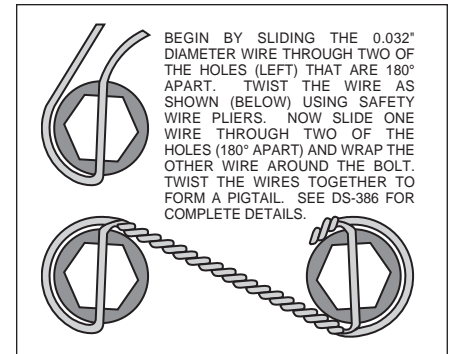
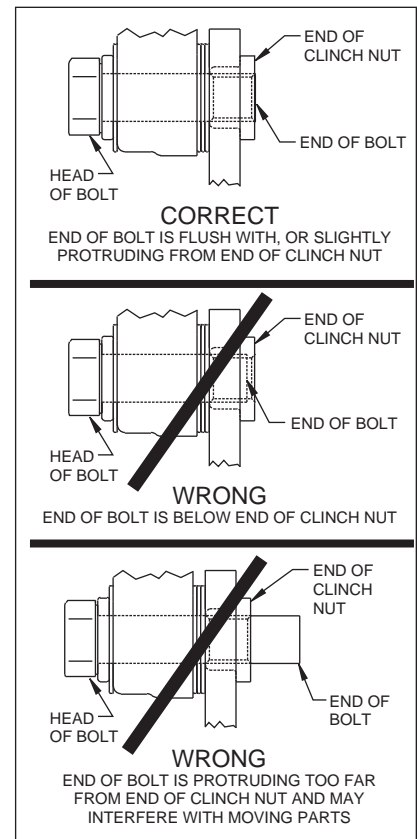

Figure 3. Safety Wire Diagram
Figure 4.
- With the larger I.D. side of the rotor (5) facing away from the hat (7), bolt rotor (5) to hat (7) through the backside of the rotor using bolts (6). Torque bolts (6) to 180 **in-lb**. Safety wire bolts (6) using standard 0.032 inch diameter stainless steel safety wire as shown in Figure 3. Please refer to Wilwood's data sheet DS-386 (available at www.wilwood.com/Pdf/DataSheets/ds386.pdf) for complete safety wire installation instructions.
- Slide the rotor/hat assembly (5, 6 and 7) over the wheel studs (1) in the hub (2) taking care to align the small countersunk holes in the hat (7) with the small threaded holes in the hub (2) Install three flat head socket head screws (8) through the small holes in the hat (7) and torque to 85 **in-lb**.
- **NOTE:** Please reference the caution statement at the beginning of the assembly instructions. With the bleed screws pointing up, mount the caliper (13) to the spindle utilizing the existing holes provided in the mounting ears using two bolts (16) and two washers (15). Finger tighten. View the rotor (5) through the top of the caliper (13). The rotor (5) should be aligned in the center of the caliper (13). If not, loosen the two bolts (16) and adjust the caliper (13) by using 0.032 inch thick shim washers (14). The shim washers (14) should be placed between the caliper (13) and the backside of the spindle mounting ears. Finger tighten and recheck alignment. Add as many shim washers (14) as necessary to achieve the correct alignment. **NOTE:** The end of the bolt must be flush with or slightly protruding from the head of the clinch nut. See Figure 4. Place spare shims (14) between washer and caliper mounting ear to achieve the proper mounting fastener configuration. Always use the same amount of shims on both the top and bottom caliper mounting bolts (16). Loosen the two bolts (16) and apply red *Loctite*® 271 to bolt threads (16) and torque to 35 ft-lb. Safety wire the two bolts (16).
- Install the disc brake pads (17) into the caliper (13) and secure using cotter pin (18).